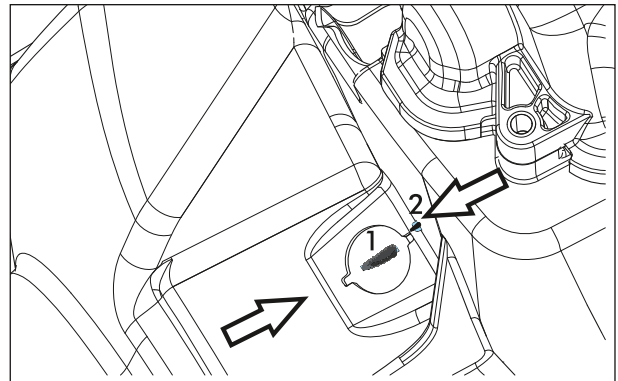

Fig. 2.27
- Rotate the magneto rotor by rotating the fan. Match the 'T' mark(1) on the rotor with the '—' mark (2) on crankcase L. Ensure the engine is in compression stroke, by shaking both Inlet and exhaust valves. If there is a clearance observed in both the valves it indicate it is in compression stroke, else, rotate the rotor by 360° to bring it to compression stroke.( Fig.2.27)